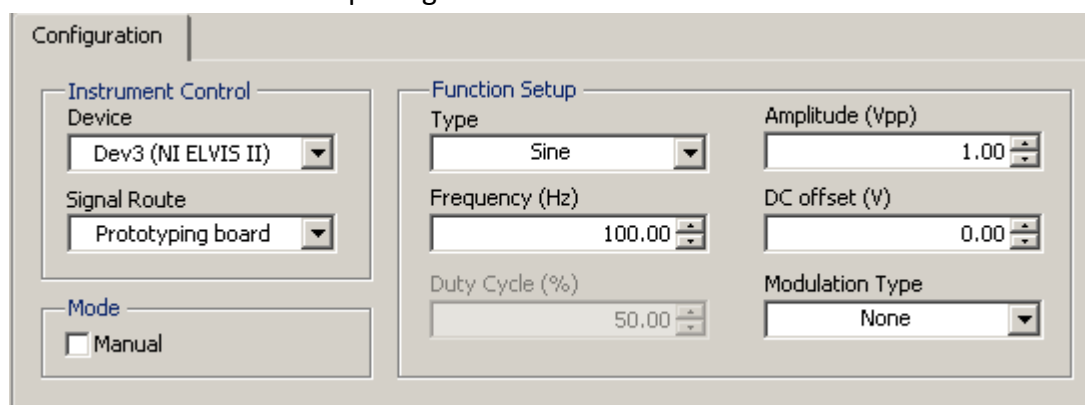

Figure 6-3
- Set the controls as per Figure 6-3.